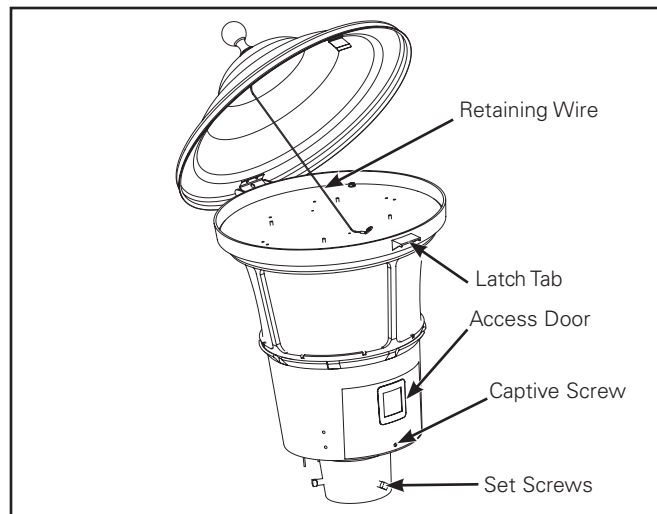
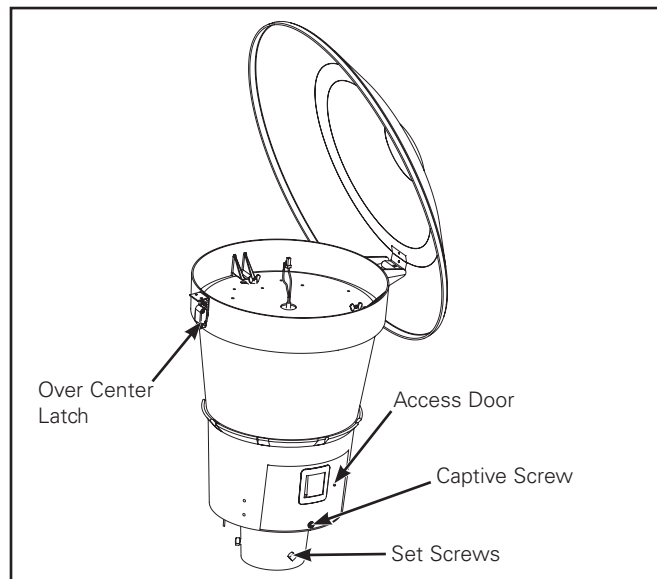

Figure 1. (Breckenridge)
Figure 2. (Woodbridge)
1. Remove access door by loosening captive screw. (Figure 1. - Figure 2.)